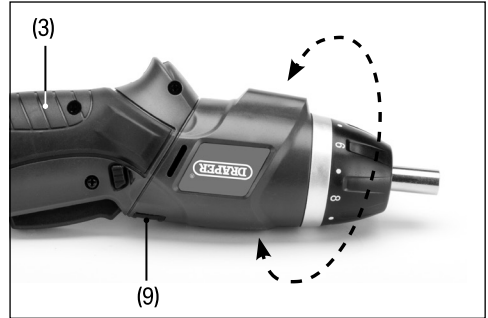

Fig. 5
7.4 Adjusting the Handle Position (Fig.5)